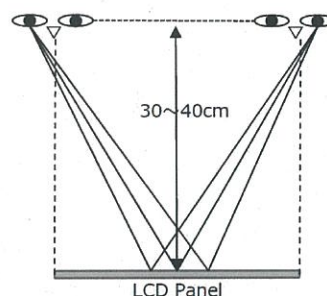

Fig. 8.2 Inspection condition for partial non-uniformity
- 2) Partial non-uniformity from oblique angle especially optical chiecking (light leakage, white spot and etc.) should be inspected as Fig. 8.2.